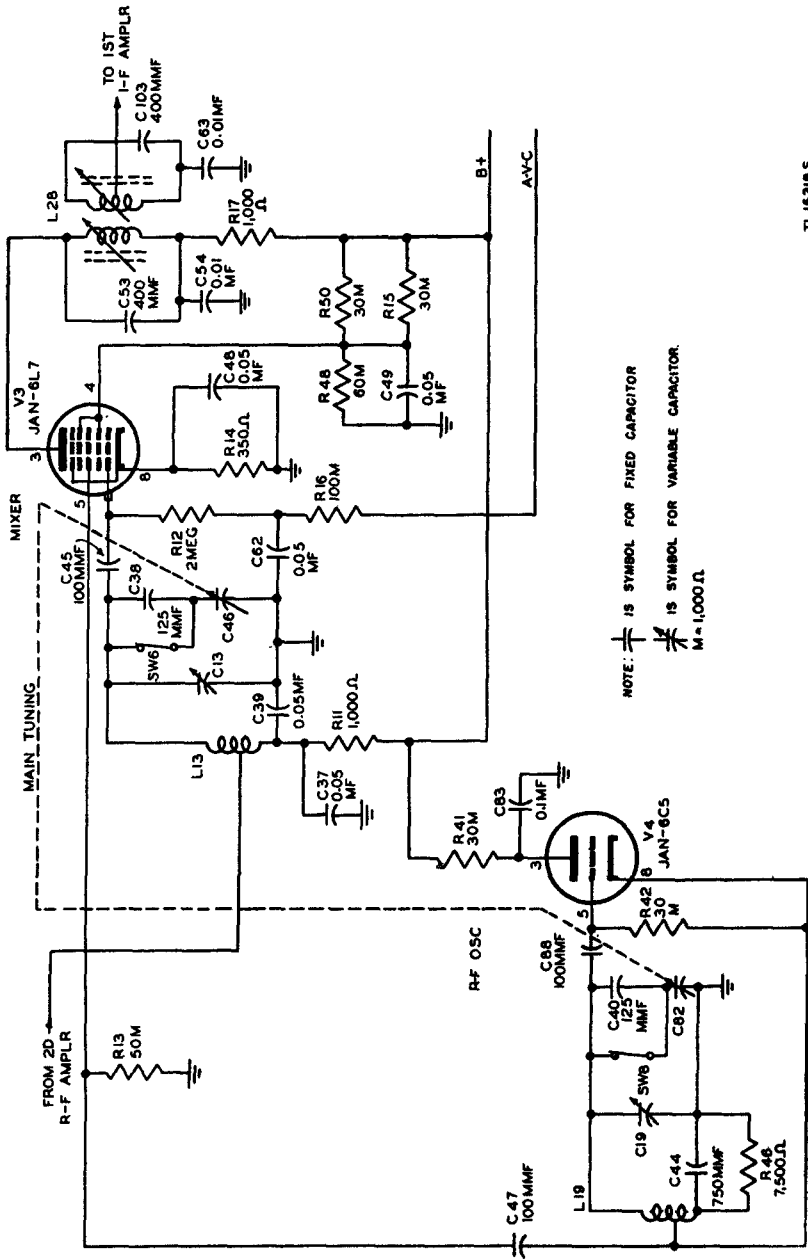

Figure 23. Mixer and r-f oscillator stages, h-f models.
a. RADIO RECEIVERS BC-312-(\*) AND BC-342-(\*). (1) The amplified r-f signal developed across the tuned circuit consisting of coil L13, capacitor C13, and capacitor C46 (fig. 23) is applied to the grid of mixer tube V3, a Tube JAN-6L7 penta-grid converter. The grid is returned through resistors R12 and R16 to the a-v-c bus in a manner similar to that used for the two r-f stages. The tuned grid circuit also functions as the tuned plate circuit for the second r-f amplifier tube and functions the same as the tuned circuits previously described. (See par. 556.) Cathode bias for the mixer tube is developed across resistor R14 bypassed to ground by capacitor C48.
(2) An injector grid is provided in the mixer tube to which is applied a steady r-f voltage developed by r-f oscillator tube V4. The frequency of this r-f voltage is such that when this voltage beats against the incoming r-f signal applied to the mixer control grid, an intermediate frequency equal to the difference of these two signals will be produced. The resulting i-f signal will have the same modulation as the incoming r-f signal. The r-f oscillator circuit uses a triode Tube JAN-6C5 in a modified Hartley circuit with the plate end of the tank circuit operating at ground potential for radio frequencies. The tank circuit consists of inductor L19 (fig. 23), tuned by capacitor C82. Capacitor C82 is mechanically ganged with the main tuning capacitors C28, C34, and C46. Capacitor C40, in series with C82, is used on the three higher frequency bands to obtain a greater frequency spread. This capacitor is short circuited by switch SW8, ganged with switches SW2, SW4, and SW6, on the three lower frequency bands. Trimmer capacitor C19 is used to align the oscillator tank circuit so that it will track with the other tuned r-f circuits. Padder capacitor C44 is also used to insure proper tracking over the frequency range of the band.
(3) Plate voltage for the oscillator tube is supplied from the B+ supply through dropping resistor R41 bypassed to ground capacitor C83. Cathode bias for the oscillator is obtained by the voltage drop across resistor R46. This resistor is changed with each band to insure that the correct bias and thus the correct plate voltage for the oscillator is obtained on all bands. A portion of the r-f voltage developed across the tank circuit is applied to the injector grid of tube V3 through coupling capacitor C47. Resistor R13 is the injector grid return resistor.
(4) The heterodyne action of the mixer tube on the received signal and the oscillator signal produces an output signal of